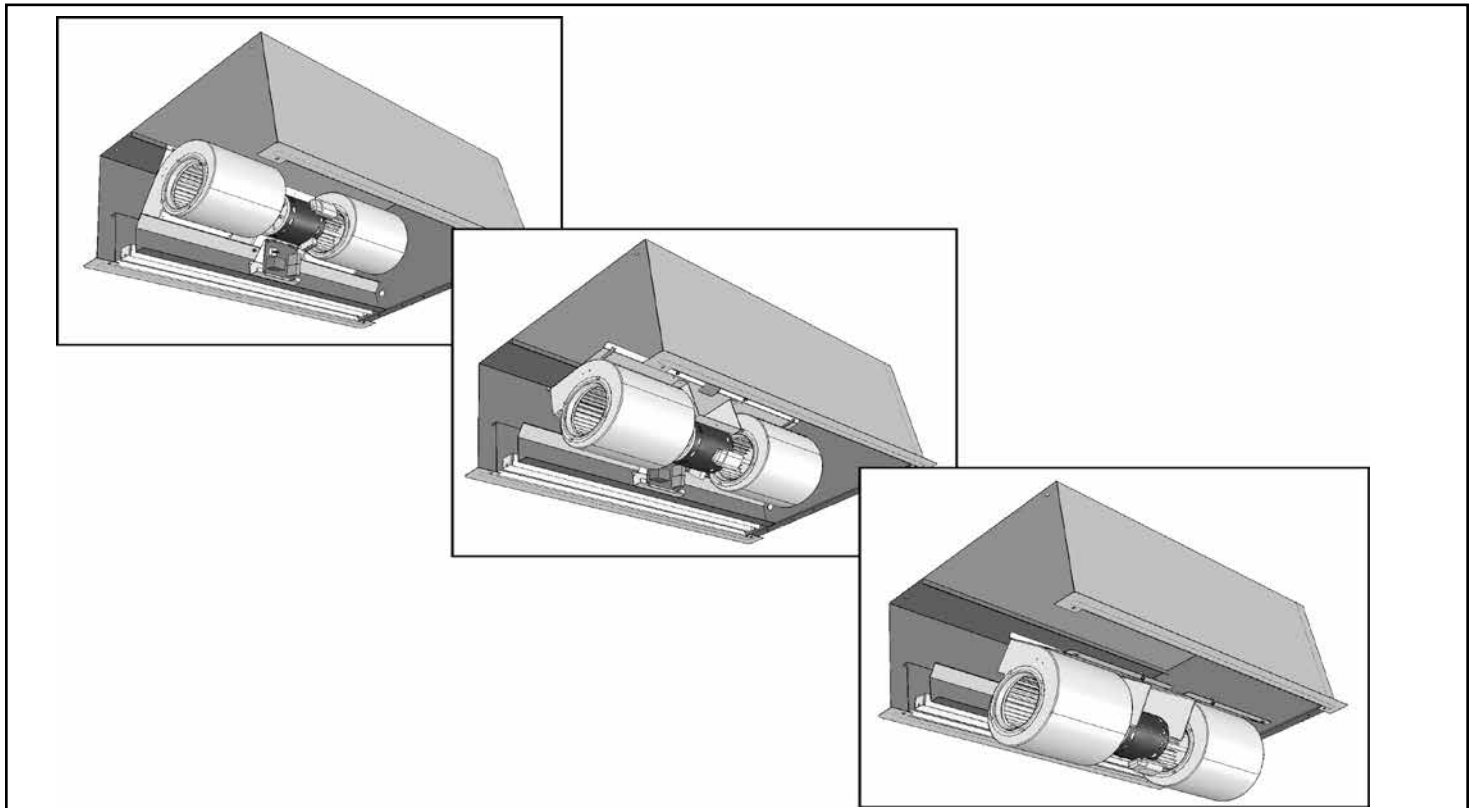

Figure 9
8. Wearing protective gloves, hold the module by the motor, and rotate the module top forward and drop it down through the bottom of the unit. **See Figure 9.**
10. Next, remove the two blower housings by removing the (8) screws that attach the fan housings to the blower plate. When the fan housings are free, slide them and their fan wheels off to each side.